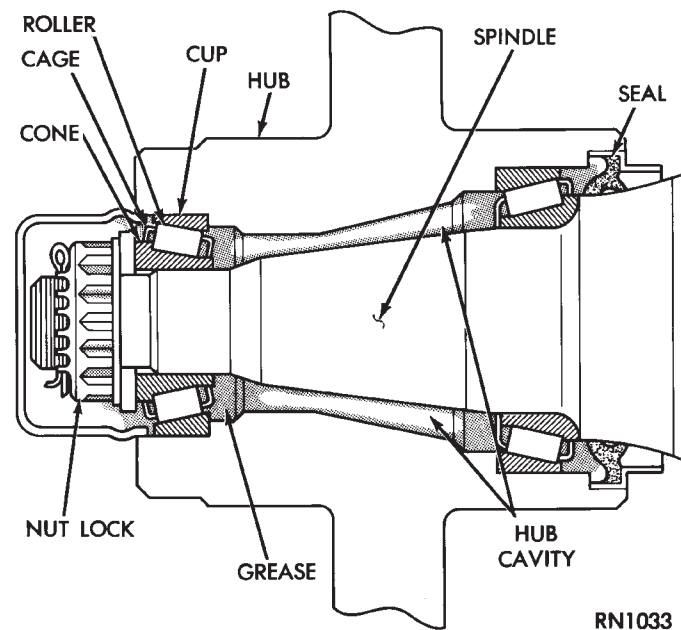

Fig. 7 Rear Wheel Bearings
- (1) Hoist rear wheels off the ground and support vehicle on safety stands. Refer to Hoisting Recommendations in the General Information section of this group.
- (2) Remove rear wheels.
- (3) Remove brake caliper on vehicles with rear disc brakes. For proper procedure, see Group 5, Brakes.
- (4) Remove rear wheel hub (drum) assembly and remove inner grease seal (Fig. 7). For proper service procedure, see Group 5, Brakes.
- (5) Inspect bearings, refer to Inspection paragraph of this procedure. Wash used lubricant from bearings with solvent and blot or blow dry.
- (6) Using a bearing packing device, lubricate the bearings with Mopar, Wheel Bearing Grease or equivalent.
- (7) With a wiping cloth, clean used lubricant from wheel hub assembly and axle spindle.
- (8) Install inner wheel bearing in the hub assembly, small end of bearing toward hub. With a finger, smooth out grease around the outside of bearing.
- (9) Using a seal driver, install new inner hub seal.
- (10) Install wheel hub (drum) assembly on axle spindle.
- (11) Install outer wheel bearing over the spindle end, small end of bearing toward hub. With a finger, smooth out grease around the outside of bearing.
(12) Install washer and spindle nut. While rotating hub, tighten spindle nut to 27 to 34 N·m (240 to 300 in. lbs.) torque. Loosen spindle nut one quarter turn. Hand tighten spindle nut.
(13) Install spindle nut lock cover, cotter pin and grease cap.
(14) Install disc brake caliper on vehicles with disc brakes.